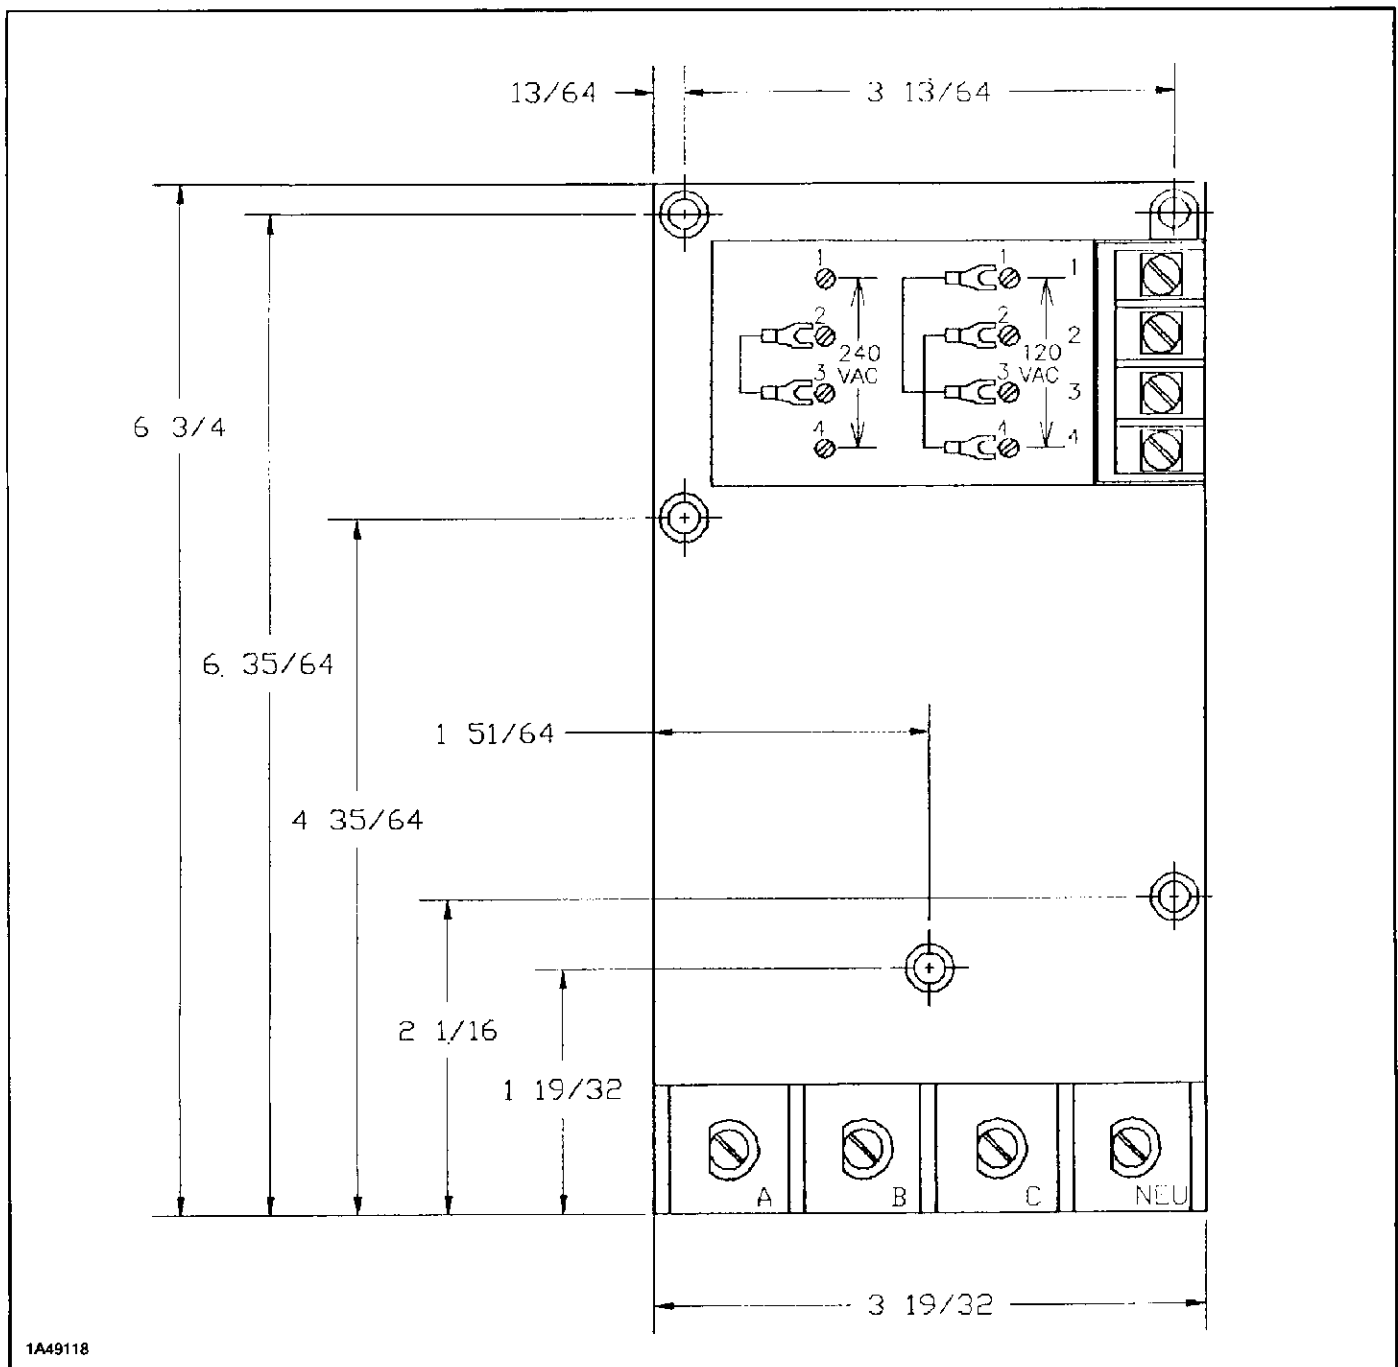

Fig. 2 Outline and Mounting Dimension Drawing (Dimensions in inches)
- (1) The location allows for a cable connection between the IQ Data Plus (II) chassis and the SSPSM by means of the 36 in. Extension Cable Option (Style 7871A40G02).
- (2) The SSPSM can physically fit in the location desired (See Figure 2).
the rear of the SSPSM. This is also shown in Figures 2 and 3. For 120 VAC operation, jumpers must be installed from terminals 1 to 3 and 2 to 4. For 240 VAC operation, a jumper must be installed from terminals 2 to 3.